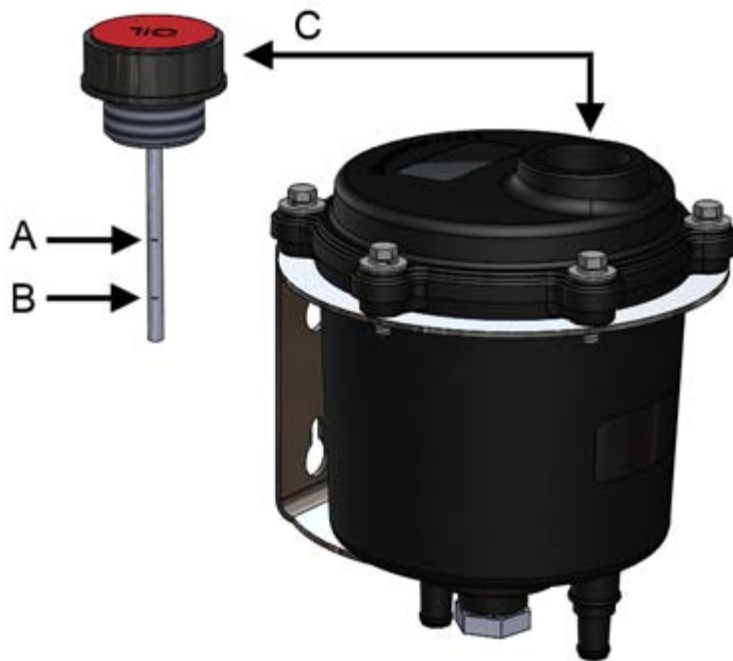

Figure 22. Checking the oil level
6. Check the oil level from the dipstick on the reservoir cap (figure 22, point B).
The system must have the right amount of oil. If it is necessary to add oil to the system, add it through the oil reservoir cap (figure 22, point C). There is a dipstick on the reservoir cap with markings for maximum and minimum oil levels (figure 22).